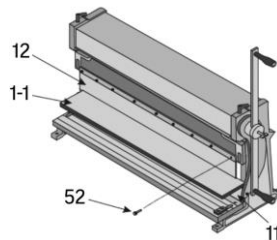

Fig. 1
1. Place a flat, straight piece of wood (not included) (Fig. 1-1) between the upper braking dies (#12) and moving cutter plate (#11) so that the material just touches the upper braking dies (Fig. 1).
2. Loosen the screws (#52) holding the upper brake dies in place (Fig. 1).